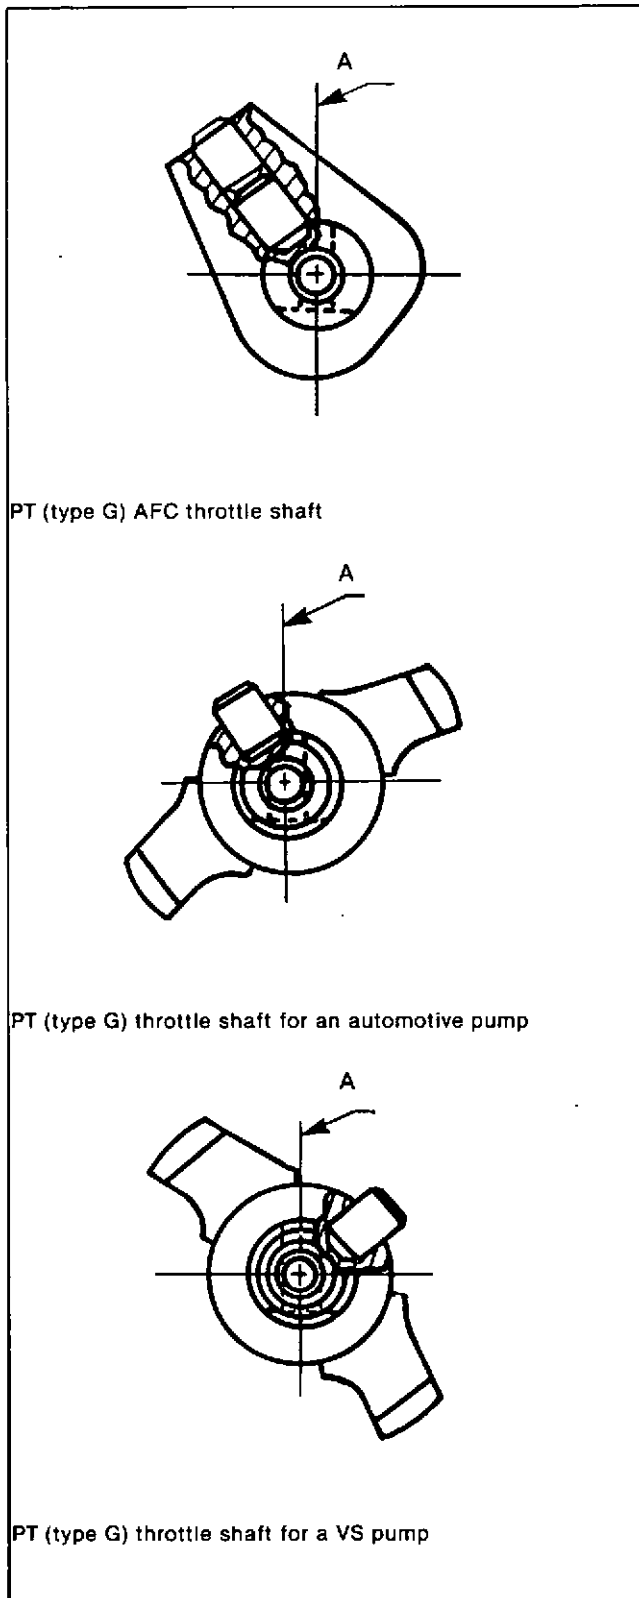

Fig. 8-10, (F5403). Location of the throttle stop on the throttle shaft.
3. Install the washer over the shaft. Insert the old design throttle shaft in the sleeve so the casting is curved down, Fig. 8-10. If a pin is in use, the open side of the pin goes down. Lubricate the shaft with fuel oil.